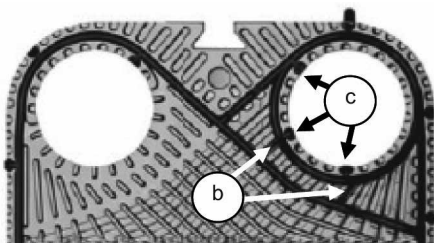

Fig. 9
- On the other half, use shears to remove all the Plug-In® tabs and, if present, all the connecting bridges between the diagonal and the sealing ring (Fig. 9 b). So, following the procedure described in point 5.7.3, attach the gasket, excluding the sealing rings. Models with a dedicated initial gasket: no cutting is necessary; attach the gasket according to the
- Models equipped with Plug-In® tabs inside the sealing rings: using shears, cut the Plug-In® tabs inside the sealing rings (Fig. 9 c) corresponding to the closed holes only. Then, following the procedure described in point 5.7.3, attach only the connecting bridges between the diagonal and the ring.